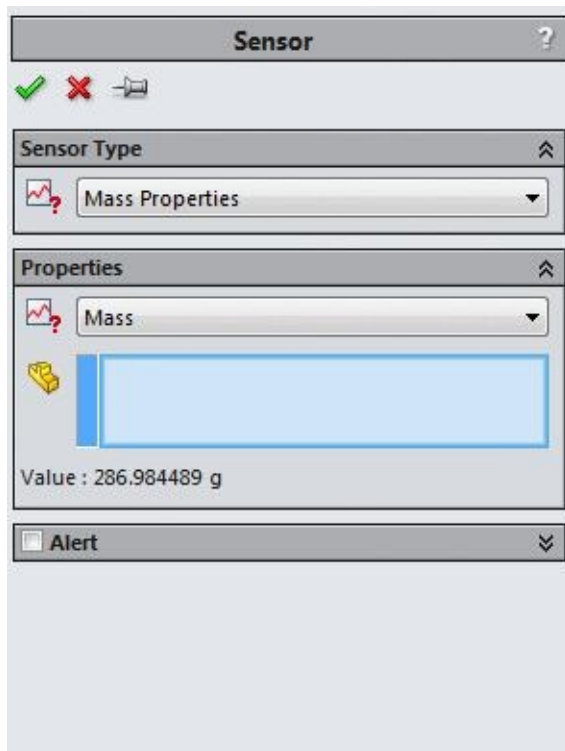

Figure-22. Sensor PropertyManager
- Click on the **Add Sensor** option from the list. The **Sensor PropertyManager** will be displayed; refer to Figure-22.